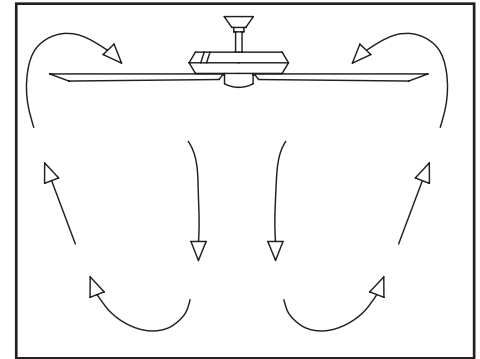

Figure 14
**Warm weather** - (Forward) A downward air flow creates a cooling effect as shown in Figure 14. This allows you to set your air conditioner on a higher setting without affecting your comfort.